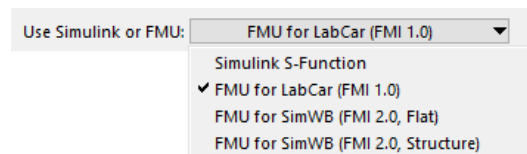

Figure 21. Drop-down control to select external modeling tool.
- ②④ User ID and password for target machine.
- ②⑤ IP address of target machine where the VS Math Model runs. This is needed for real-time animation, to allow one or more live animators to seek connections with a running VS Math Model.
- ②⑥ Local IP address (host machine) that connects to the real-time target. This is needed for real-time animation, to allow the VS Math Model running on a target machine to communicate with the animator, running on the host machine.
- ②⑦ Live animator communication TCP port.
- ②⑧ Drop-down control to select the external modeling tool. Use this to choose among four supported tools (Figure 21). If the Simulink option is selected, then the project pathname ①① should be a Simulink model file. If an FMU option is selected, then the project pathname should be the name of the FMU file that will be generated ①⑧.